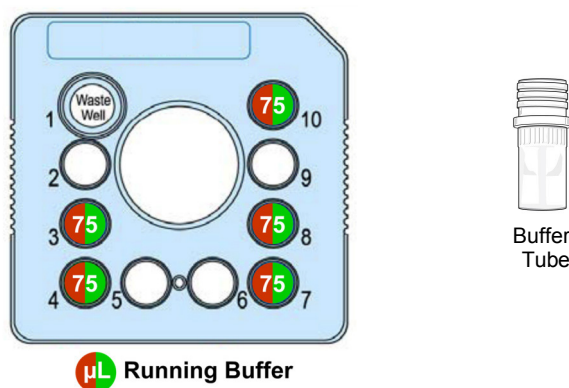

Figure 1: Chip Preparation
4. Add **75 μ L** of the Running Buffer mixture to wells 3, 4, 7, 8, & 10 of the chip (as shown in Figure 1).